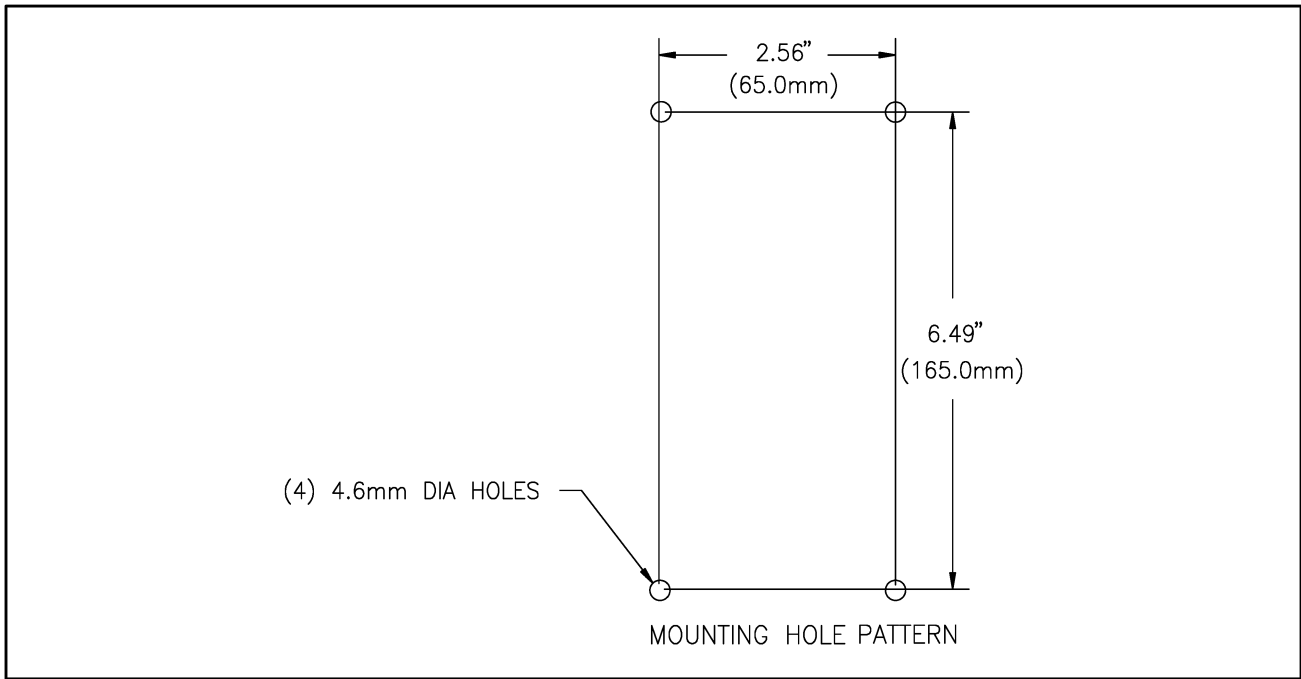

Figure 1 - Inverting Fault Circuit Breaker Mounting Hole Pattern
Step 2. Drill the mounting holes (4.6 mm diameter) for the circuit breaker mounting plate using the mounting hole pattern shown in Figure 1.